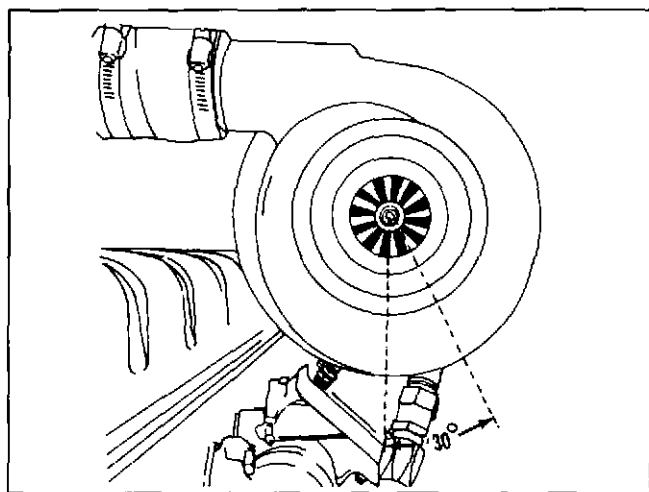

Fig. 1-9, (TM52). Turbocharger mounting
1. Check the position of the turbocharger oil drain. This drain must always be down or within 30 degrees of that position when the turbocharger is mounted on the engine, Fig. 1-9.